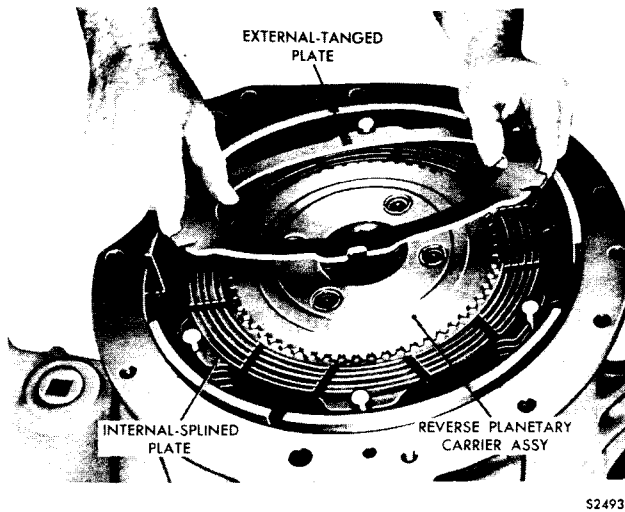

Fig. V-17. Removing (or installing) reverse-range clutch plates
(3) Remove five external-tanged and four internal-splined reverse-range clutch plates (fig. V-17).
(4) Remove the reverse-range planetary carrier assembly and the remaining internal-splined clutch plate (fig. V-17). Refer to sect. VI, para 18 for rebuild of the reverse-range planetary carrier assembly.